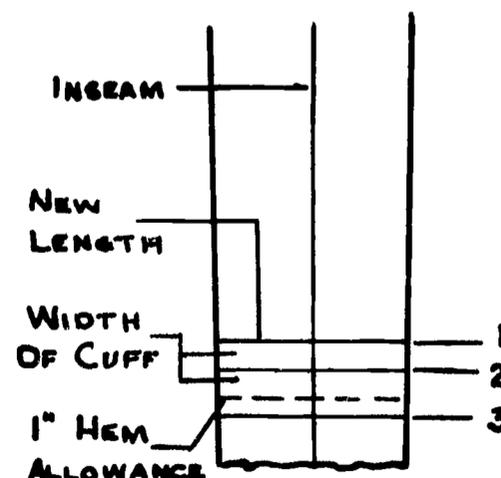

Figure 60.
2. If the alteration tag gives the customer's finished inseam measurement, begin this measurement at the crotch and then make a chalk mark on the inseam at the required length. If, on the other hand, the length was marked with chalk by the fitter, transfer this marking to the right side of the fabric on the inseam. This chalk mark now indicates the length desired by the customer (see line 1 on Figure 60).
3. Measure the desired width of the cuff below the first line and mark another line (see line 2 on Figure 60). The present trend for width of cuffs is from 1-1/8 inch to 1-1/2 inch, but this may vary from one customer to another.
4. Add the width of the cuff to the amount to be turned under for the hem (minimum of one inch) and mark another line (see line 3 on Figure 60). Be sure to draw these chalk lines on both sides of both trouser legs.
5. Trim the fabric off below line 3 (see Figure 60).